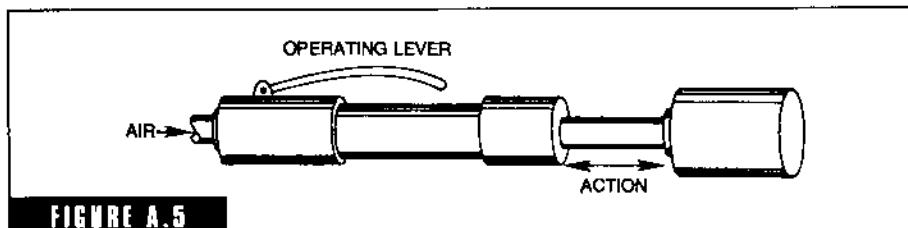

FIGURE A.5
**air rammers** A rammer operated by air introduced into a cylinder which drives a reciprocating piston and rod (Fig. A-5). A rubber butt or peen is attached to produce a fast rapid blow. Widely used